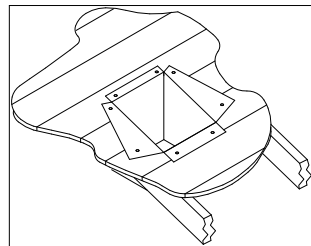

Figure 21
7. Using tin snips, cut the Support Box from the top corners down to the roof line, and fold the resulting flap over the roof sheathing (**Figure 21**). Before nailing it to roof, run a